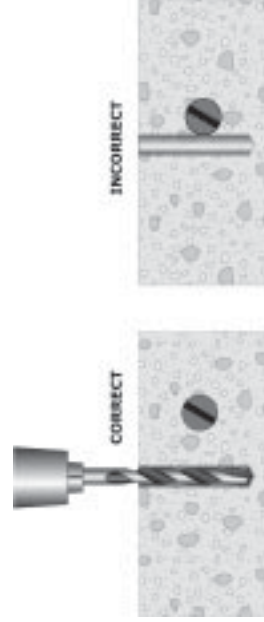

Figure 109: Drilling into concrete with rebar.
**If you strike steel reinforcement when drilling, you must have the damage inspected. As directed, fill the hole with approved grout and select a new location according to minimum spacing requirements. Drill a new hole (see Figure 109 below).**
**If you strike steel reinforcement when drilling, you must have the damage inspected. As directed, fill the hole with approved grout and select a new location according to minimum spacing requirements. Drill a new hole (see Figure 109, page 110).**